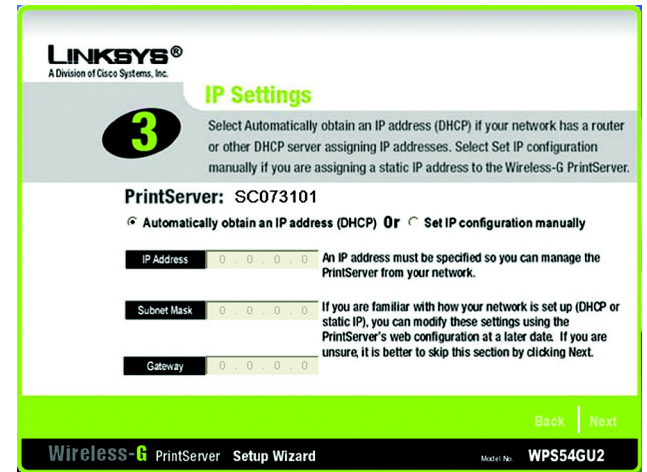

Figure 4-5: IP Settings
- The *IP Settings* screen, Figure 4-5, will appear. If your network uses a router with a DHCP setting that automatically assigns IP addresses, select **Automatically obtain an IP address (DHCP)**. If your network uses a static IP address, select **Set IP configuration manually**, and enter the IP Address, Subnet Mask, and Gateway in the fields provided. Click **Next**.